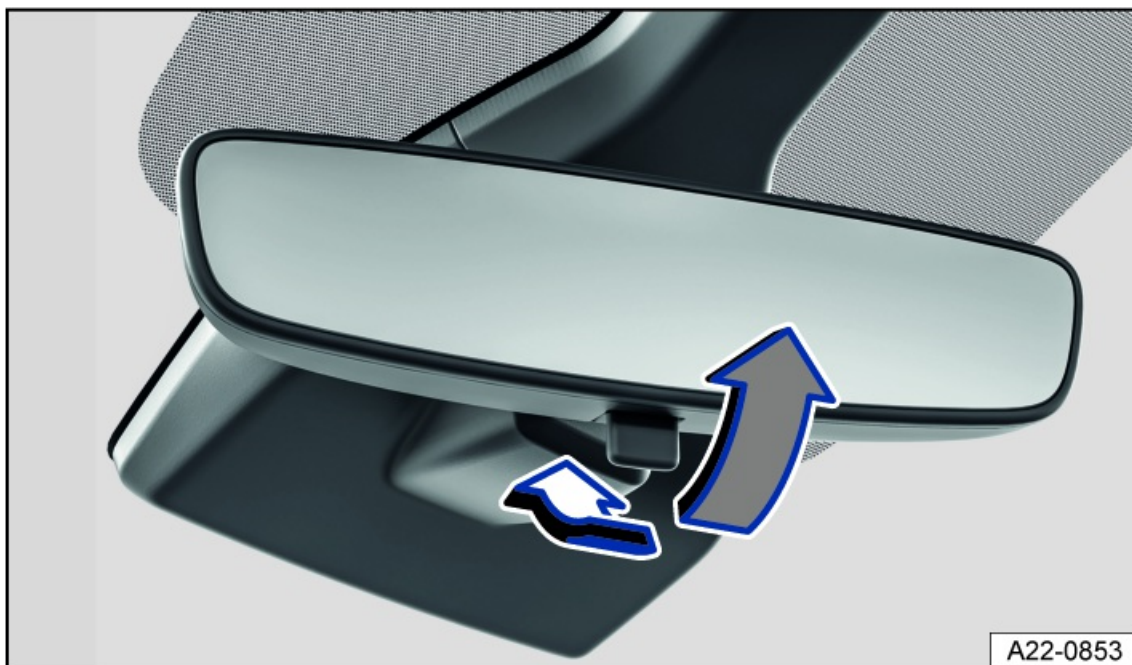

Fig. 77 On the windshield: manual dimming interior rearview mirror.
- To dim, pull the lever back fig. 77.